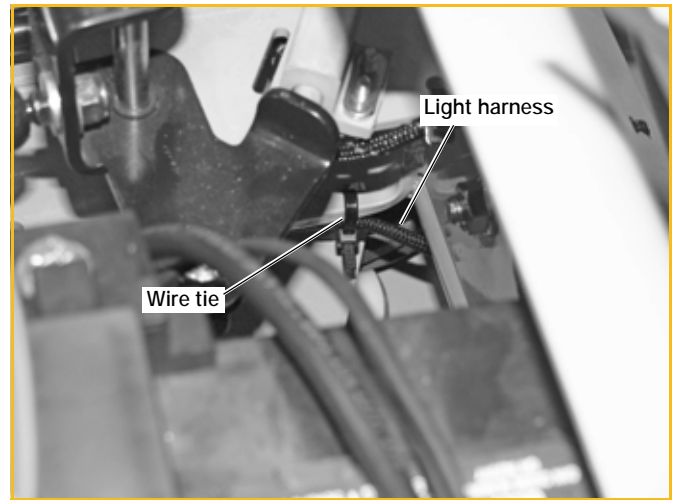

FIG. 9
15. Attach the light harness to the mower frame as shown. FIG. 9